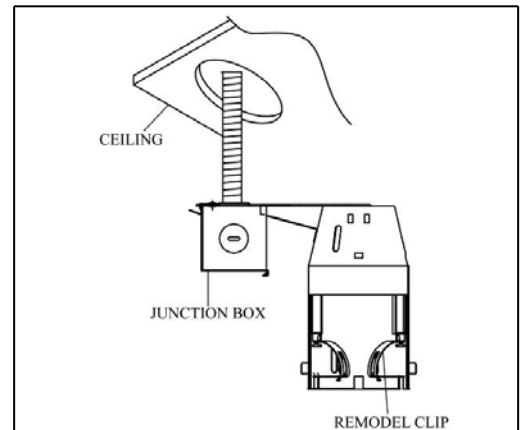

Figure 1
- Disconnect all power prior to installation. Remove the appropriate pry-out knockout with screw driver. Open snap on cover on junction box by depressing spring and allow cover to hang. Using the provided wire connectors, make all connections inside the Junction box. Bring supply wires into box by shielded cable or Romex cable and connectors (Purchased separately). Connect the 120V HOT wire black to black; NEUTRAL wire white to white; GROUND bare wire to ground, push wires carefully back into junction box. Close snap on cover in place. (Figure 1)